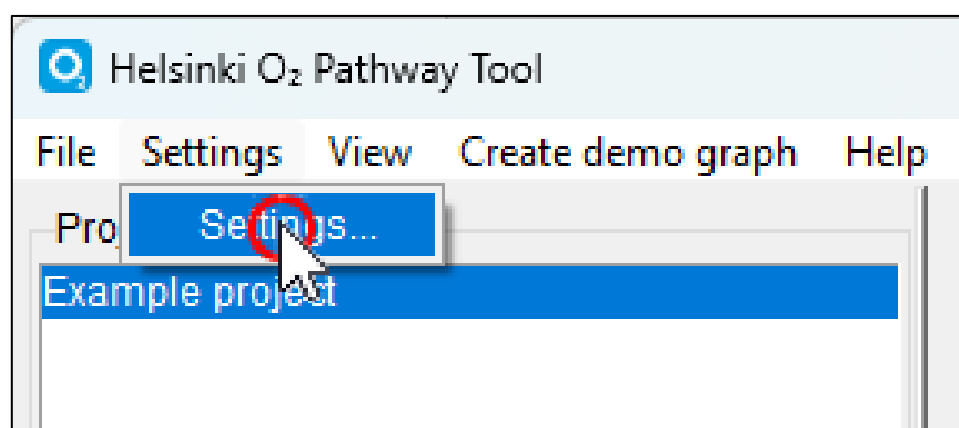

Figure 57
1. Open default settings from the “**Settings**” menu in the main menu bar (Figure 57).